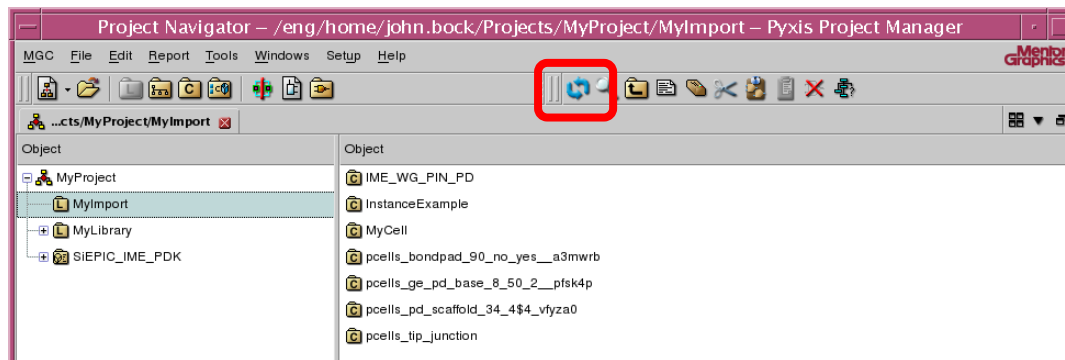

Figure 53: Refreshing the Imported Cells
4. Select **MyImport** then, on the toolbar, click the refresh icon (see Figure 53).